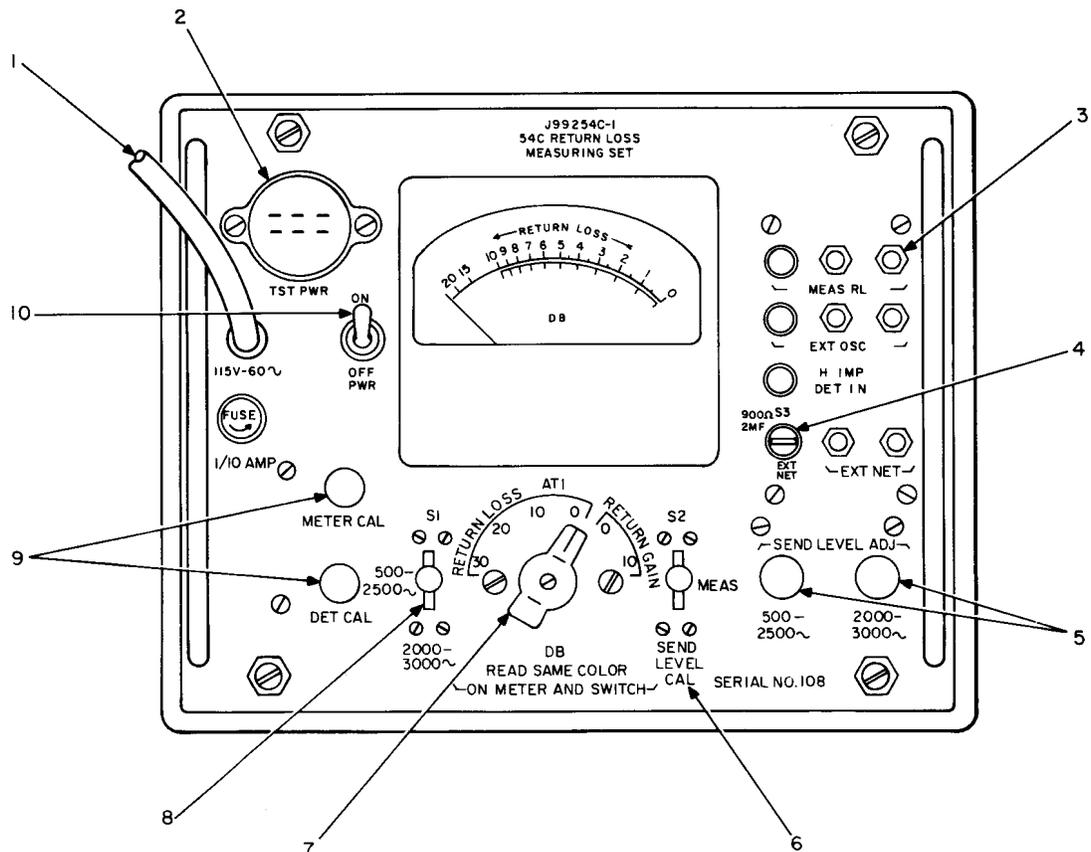

Fig. 4-27—54C Return Loss Measuring Set
**54C Return Loss Measuring Set (Fig. 4-27)**